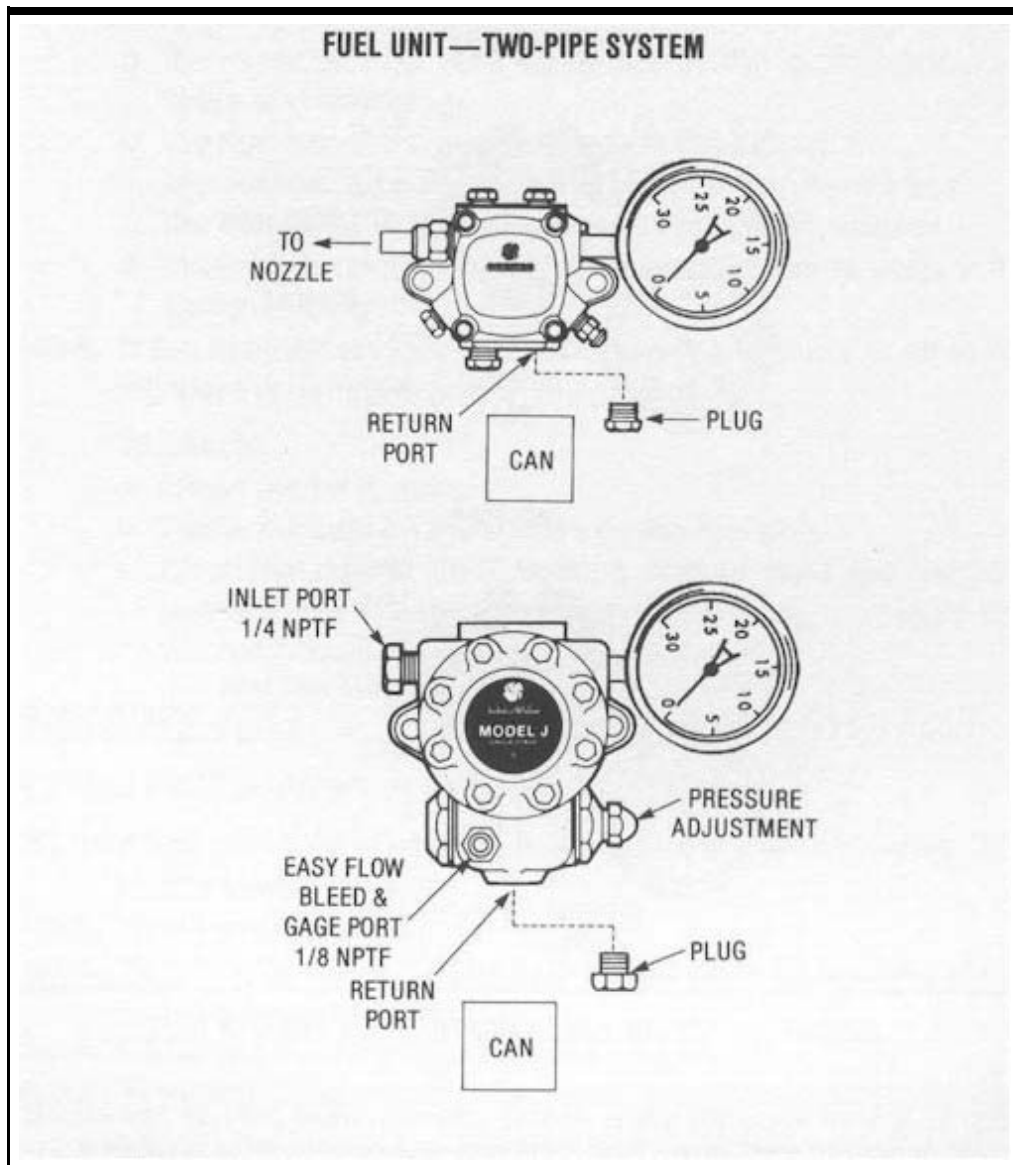

FIGURE 2 VACUUM GAGE LOCATION FOR TWO-PIPE SYSTEM
Step 1. Remove inlet line from fuel unit and install vacuum gage in the inlet port (see Figure 2).